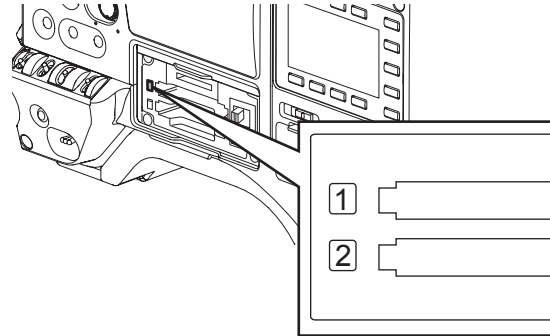

Fig. 2
- 3 Insert a P2 card into a card slot and close the slot cover. (Fig. 2)**